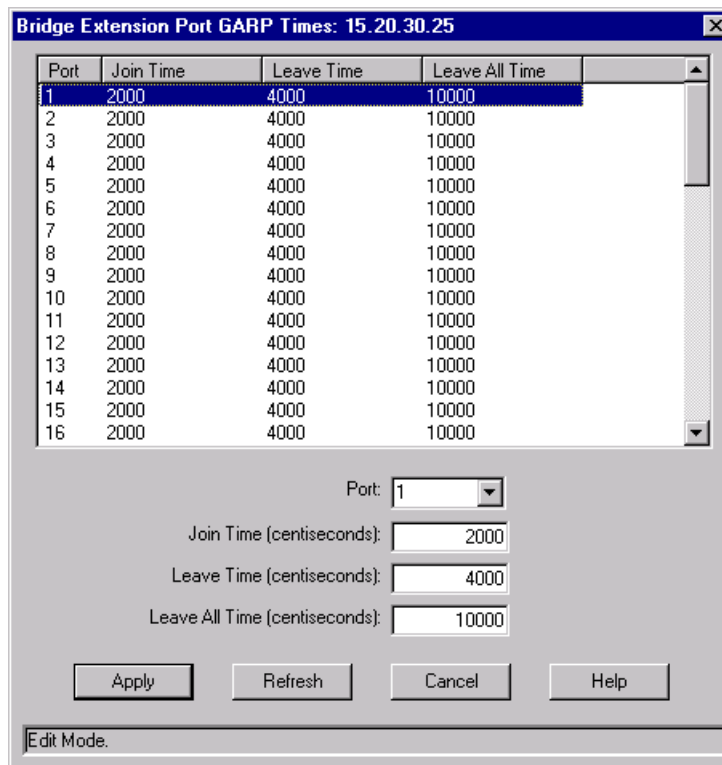

Figure 2-35. The Bridge Extension Port GARP Times Window
2. In the Bridge Extension Configuration window, click on the **Priority** button and select **GARP Times...** from the menu. The Bridge Extension Port GARP Times window, Figure 2-35, appears: